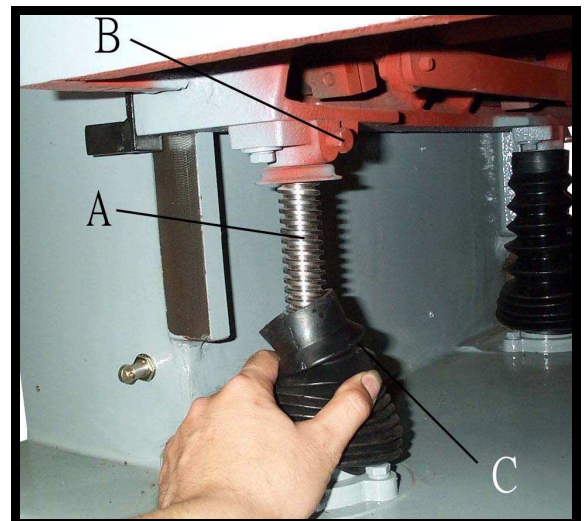

Fig. 6
2. Remove the boot (C) for access to screw.
3. Loosen lock bar (A) and turn acme screw (B) in clockwise direction, then adjust it to accurate position as shown in Fig. 6.